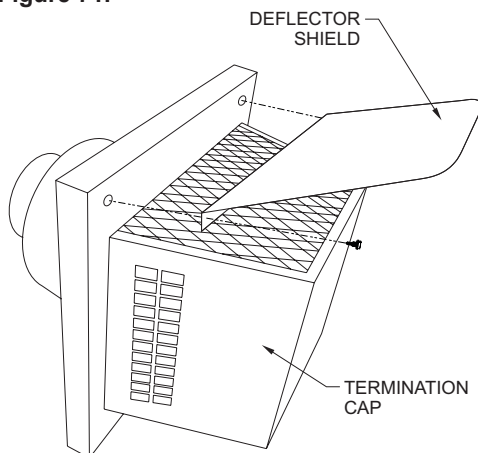

Figure 71
10. Secure the termination cap to the house exterior using four 1/8 x 3 inch long screws. Be sure to install the Deflector Shield with the two screws at the top of the termination base. **See Figure 71.**
12. Feed the outer flex vent over the inner flex flue vent and secure to the 7 inch diameter fireplace collar. Tighten the band clamp, then secure the clamp to the fireplace with (4) evenly spaced #6 x 1/2 inch self tapping screws provided.